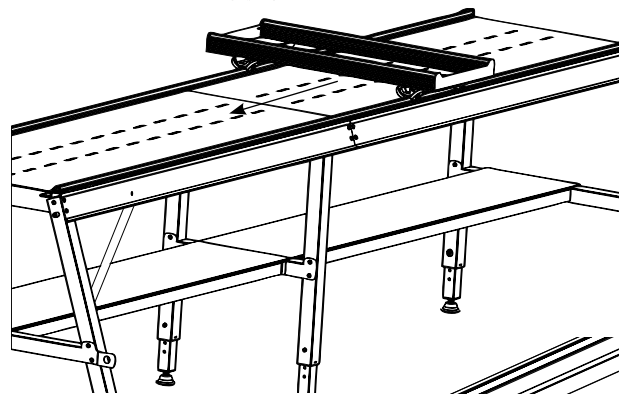

Fig. 8-3
**8-4:** Use the Bottom Carriage to align the Front Top Track Support, moving the carriage slowly down the track, stopping at each screw to tighten it in place, as shown in Fig. 8-3.